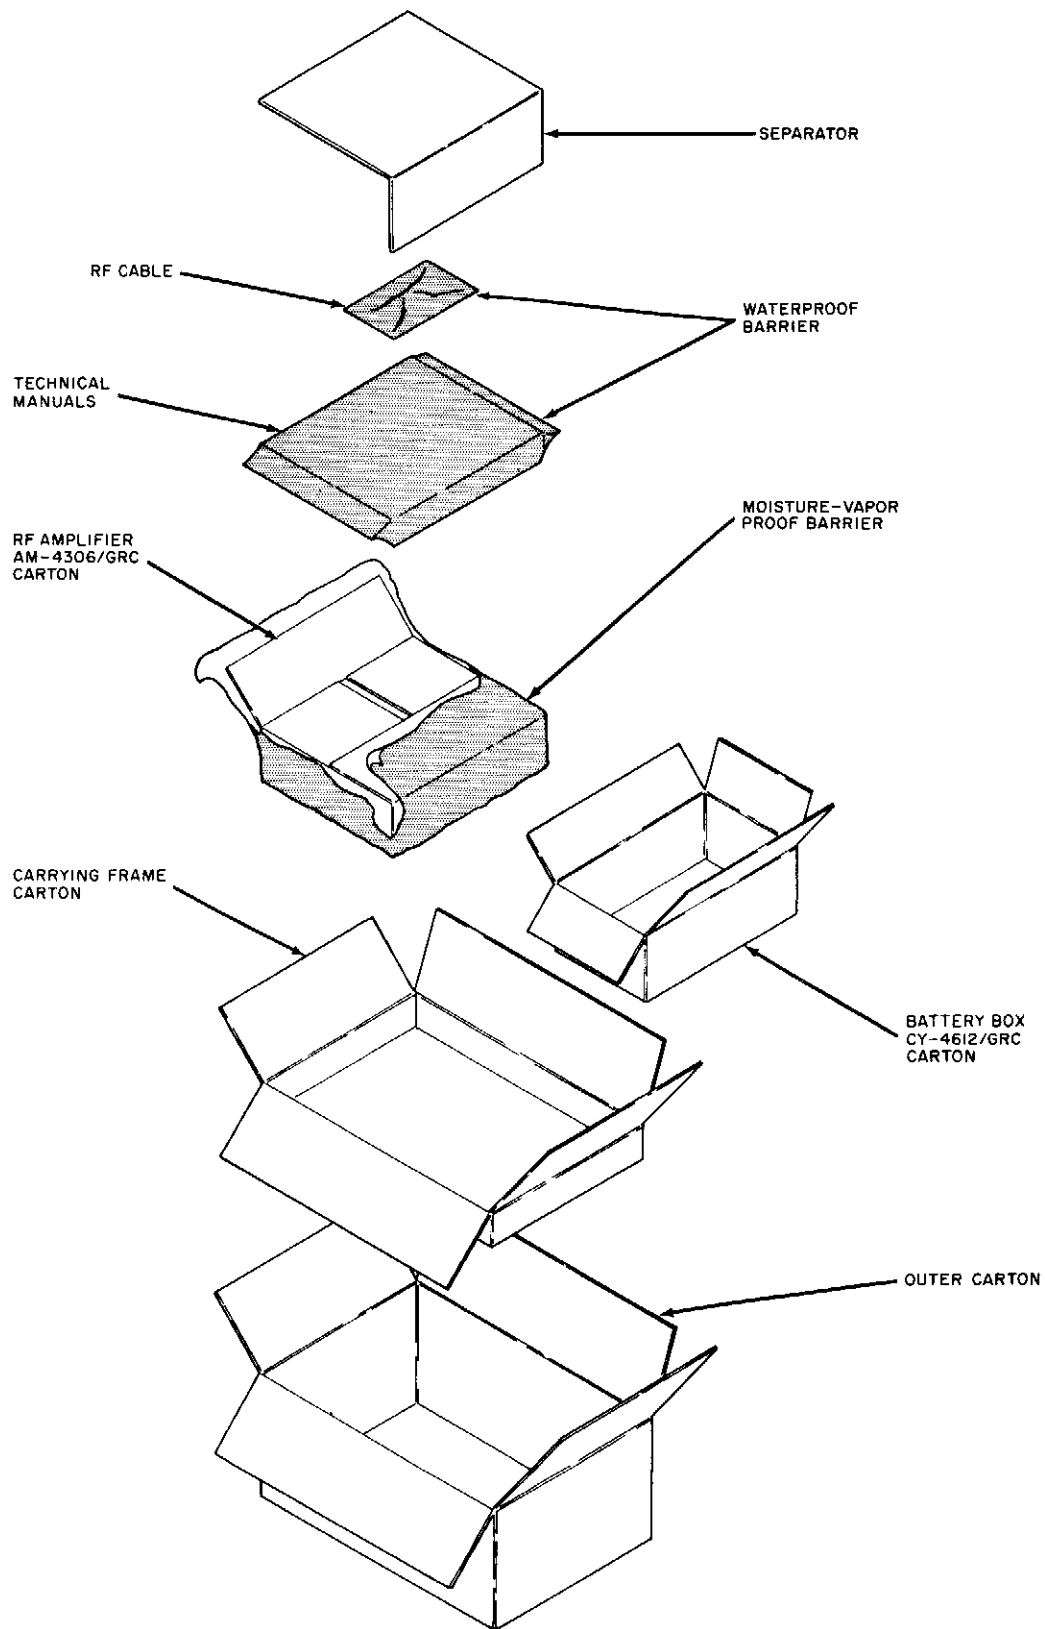

Figure 2-1. AM-4306/GRC packaging.
a. Packaging Data. The AM-4306/GRC and associated components are packaged in two cartons and then packed in one larger carton (fig. 2-1). The instruction manuals are packaged separately. The total weight is approximately 15 pounds. When unpacking, if possible, retain the shipping carton, barrier bag, and filler pads for possible reuse in repackaging for shipment or limited storage.